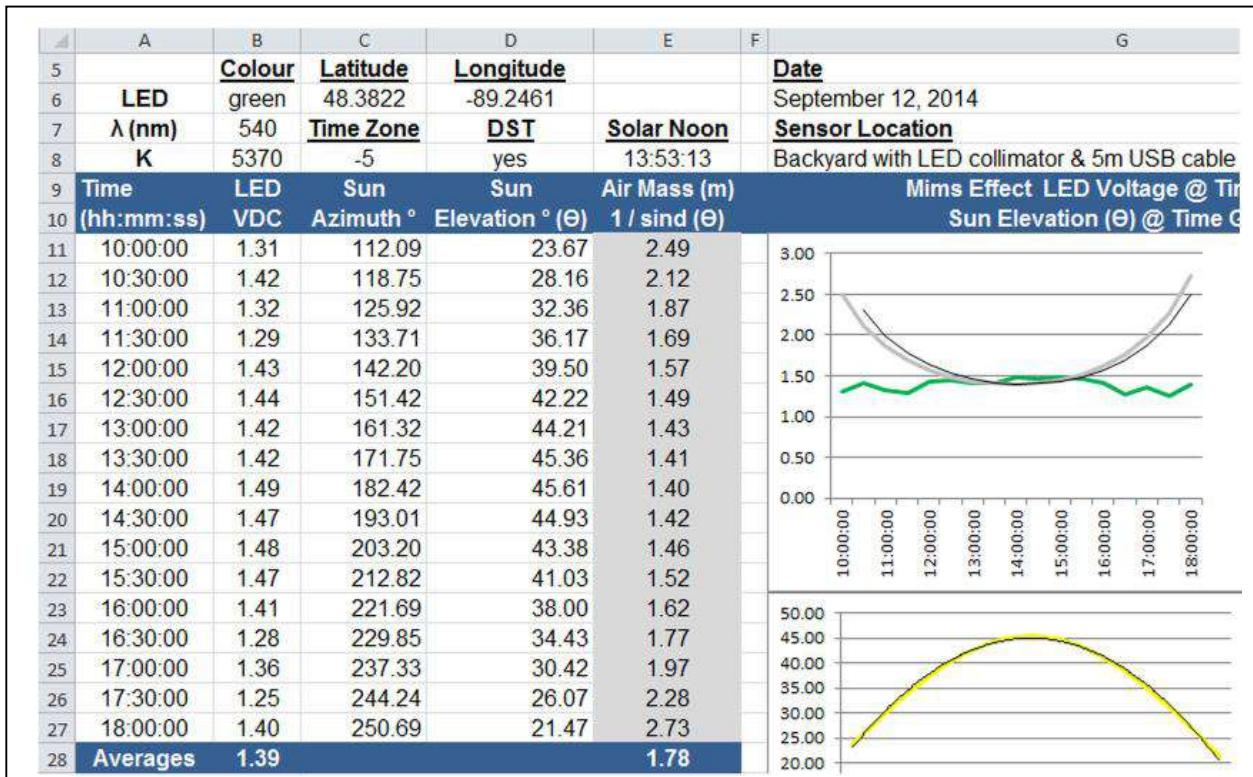

FIGURE 5C: GREEN LED RECORDED RESULTS
3. Put the Uno board/computer in room or outside with indirect/diffuse sunlight during daylight hours and record data with spreadsheet (see Figure 5c). If used outside, the LED needs to "see" the overhead sky but should be shaded from direct sunlight in the shadow of your house or other structure. *Note: For outdoors use, slip a 25mm length of black heat shrink tubing (collimator) over the LED's housing to better cohere incoming photons and block any side or reflected light.*